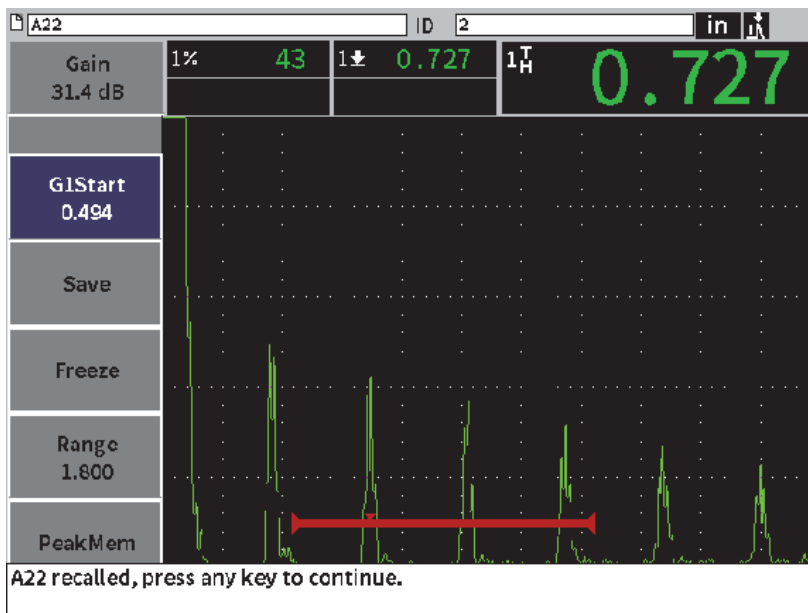

Figure 9-10 Recalled file data
2. Press the Enter key to bring the saved data to the live A-scan display (see Figure 9-10 on page 114).
The ID being viewed is displayed in the file identifier bar. The notification “<filename> recalled, press any key to continue” is displayed in the message bar (see Figure 9-10 on page 114).